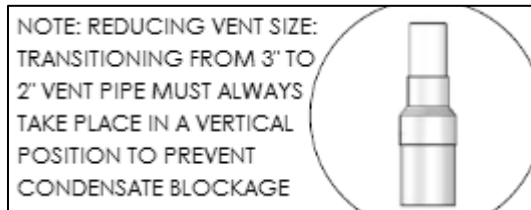

Figure 12 – Transitioning from 3" to 2" Vent Pipe
5. For 2" installations, install a reducing coupling in a vertical section of pipe. See Figure 12.